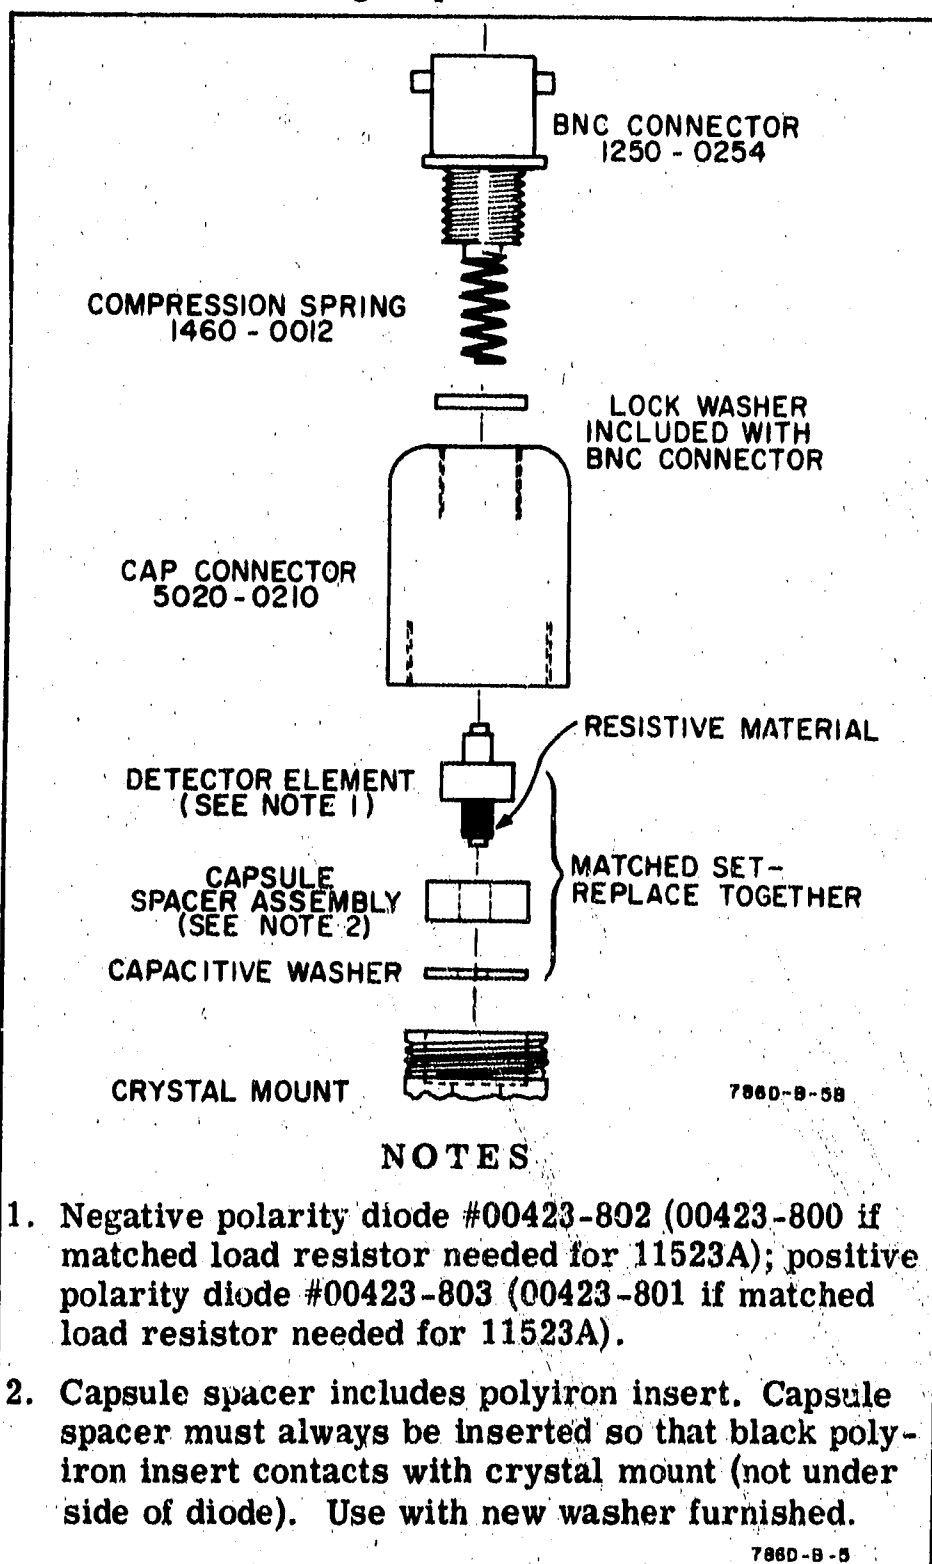
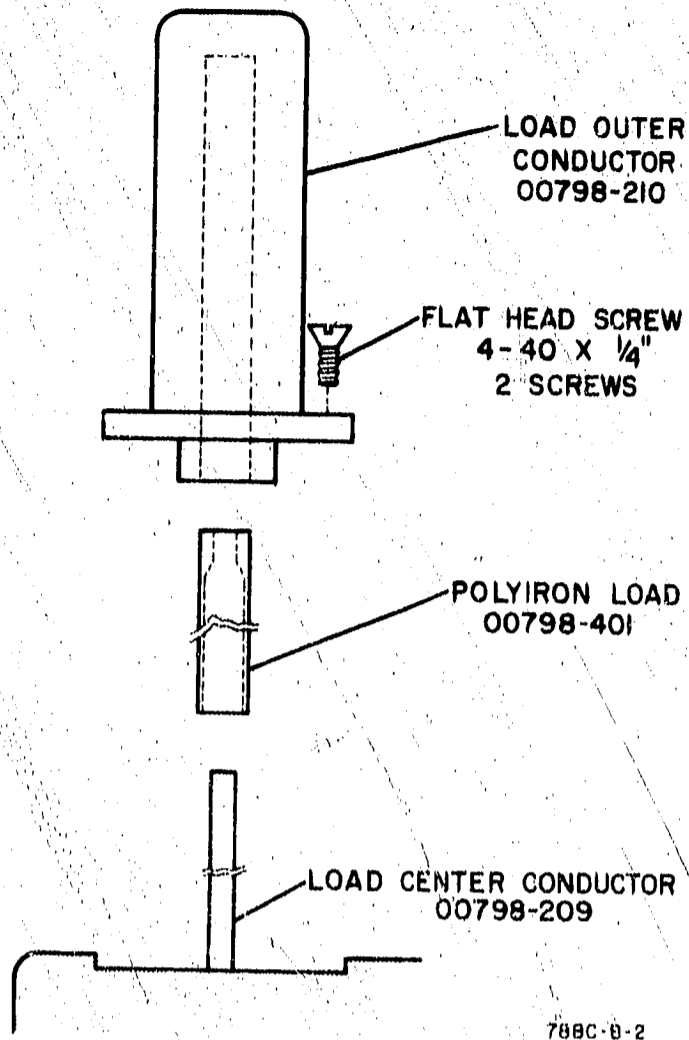
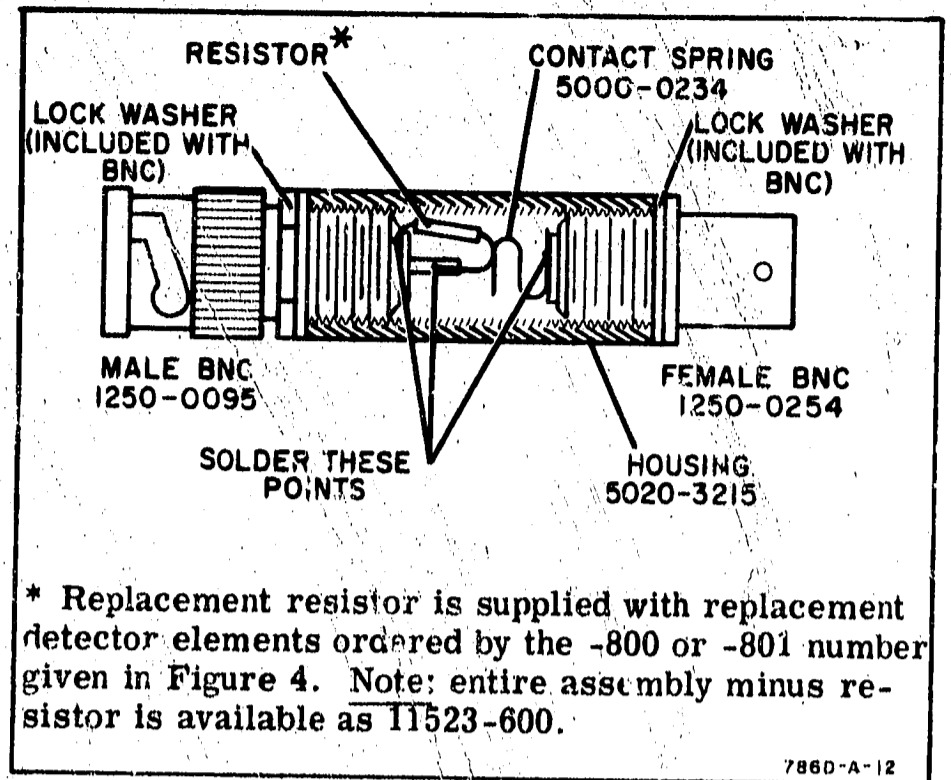

Figure 4. Detector Unit Assembly
Figure 5. 788C Load Assembly
Figure 6. 11523A Cutaway View
21. Succeeding paragraphs give instructions for repair of the directional detector and the 11523A (Option 02) Load Resistor. Figure 4 illustrates the replaceable detector assembly for the 786D, 787D, and 788C. Figure 5 illustrates the replaceable load assembly for the 788C, 786D and 787D load assemblies are not field-replaceable. Figure 6 and 7 illustrate the replaceable 11523A load resistor assembly. Stock numbers required when ordering replacement parts are given in the respective assembly illustrations. To order a replacement part, address order of inquiry to your local Hewlett-Packard sales and service office (see listings at the rear of this Note).
The detector element (see Figure 4) can be damaged electrically by incorrect handling. Read the following handling precautions before doing anything which involves detector element.
- a. Note Figure 4 and remove connector cap from body. To remove connector cap, use gas pliers with nylon teeth or protect connector body with heavy paper or tape.
A resistor is included with each replacement detector element ordered by the -800 or -801 number given in Figure 4. The resistor is for use in 11523A Load Resistor and must be installed to retain proper square-law operation if the directional detector is equipped with this optional load.
- a. Refer to Figure 4. Remove BNC connector and lockwasher.
- a. Refer to Figure 5. Remove two retaining screws and the load outer conductor.
- a. Refer to Figure 6. Unscrew male BNC and lockwasher from housing by using a 3/8-inch open-end wrench and holding housing either in a vise or with gas pliers.